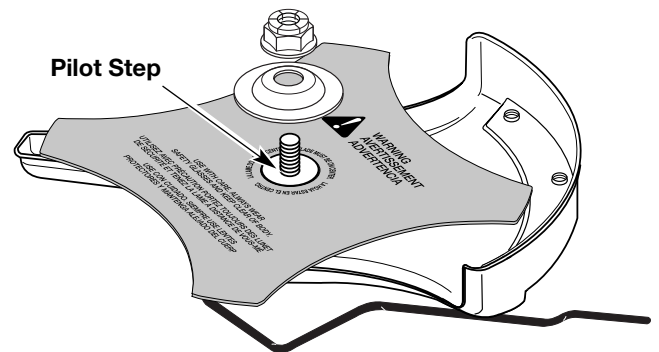

Fig. 17
2. Make sure that the cutting blade is centered on the pilot step and sitting flat against the output shaft bushing (Fig. 17).